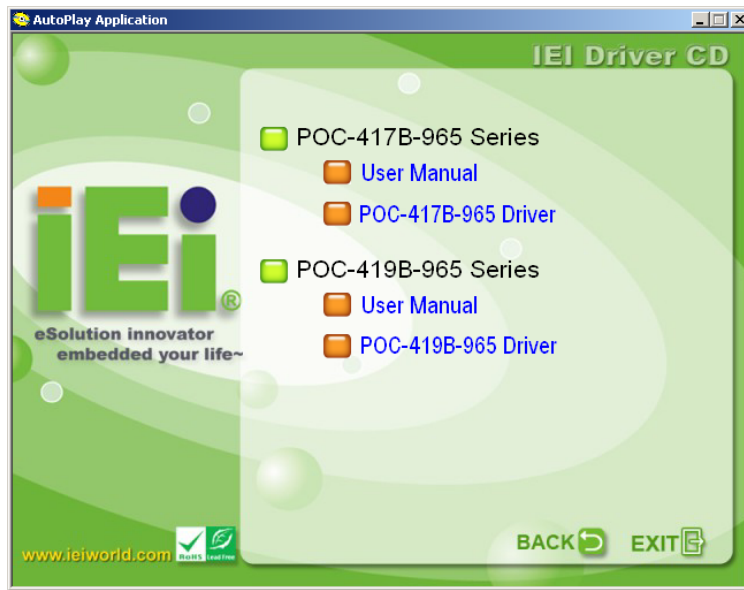

Figure 7-2: Available Models
Step 4: A new screen with a list of available models appears (**Figure 7-2**). Select POC-417B-965 Driver or POC-419B-965 Driver.